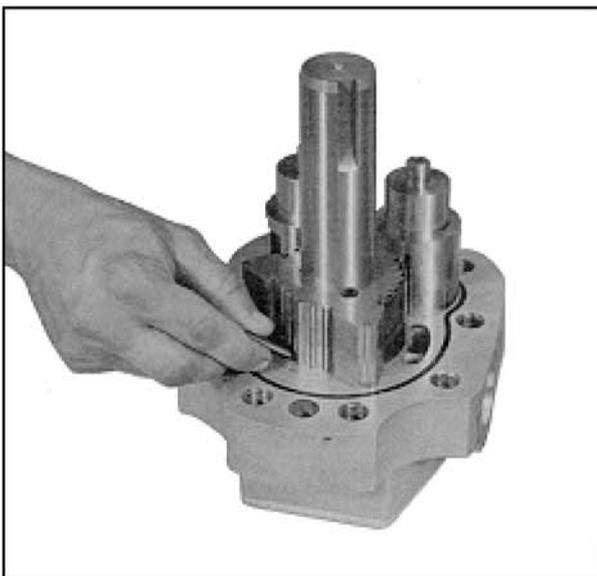

FIGURE 5
6.) Remove seal rollers (Fig. 5). The motors have two sizes. The seal rollers in the rotor tip are larger in diameter than those behind the seal plates.